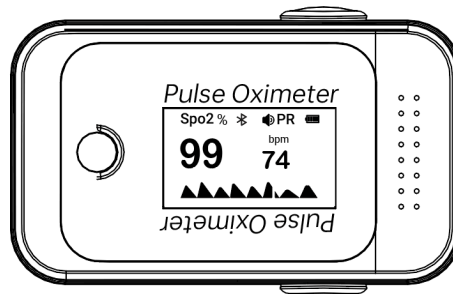

Figure 6
2. Just wait for a moment, the SpO₂ value and PR value will be displayed on the OLED screen after plethysmogra wave and measured values are stable, as shown in **Figure 6**.